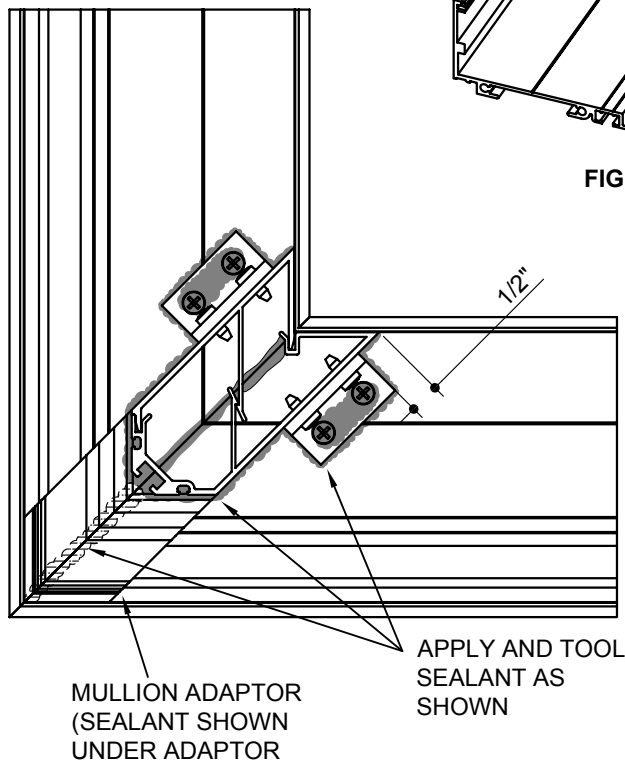

FIGURE 4
- STEP D:** Locate angle clips at bottom of each side of dart corner mullion. Match drill holes and fasten with supplied screws. (Figure 4)
- STEP E:** Apply sealant to corner where the mullion meets the receptor. Seal over heads of angle clip fasteners. Tool all sealant. (Figure 4 and 5)